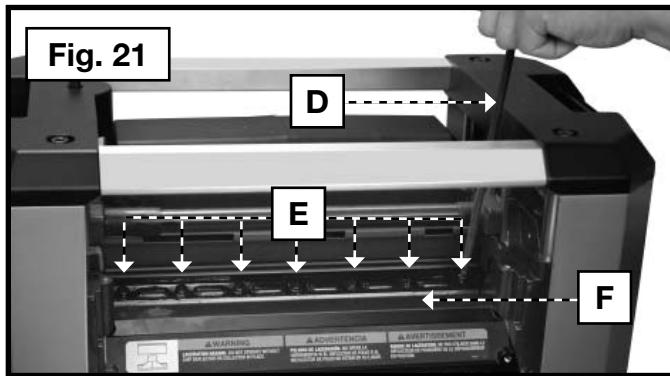

Fig. 21
4. Remove the seven screws (E) Fig. 21 and use magnetic end of the wrench to remove the hold-down bar (F).
10. Attach the hold-down bar (F) Fig. 21 that you removed in **STEP 4**. Tighten all fasteners securely.